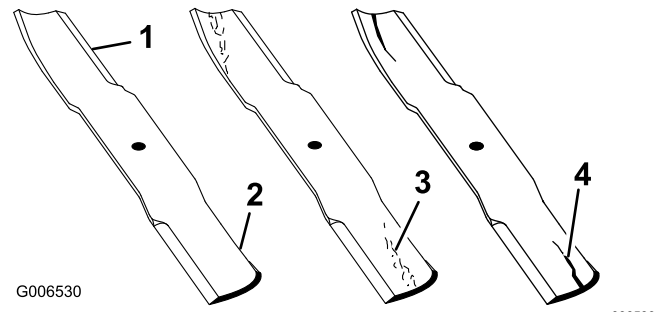

Figure 64
2. Inspect the cutting edges (Figure 64).
4. Inspect the blades, especially the curved area (Figure 64).
5. If you notice any damage, wear, or a slot forming in this area (Figure 64), immediately install a new blade.